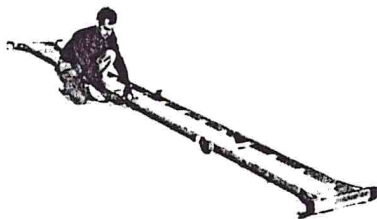

FIGURE 3.
- 4) Extend remaining rails as shown in figure 3. Lock remaining hinges.